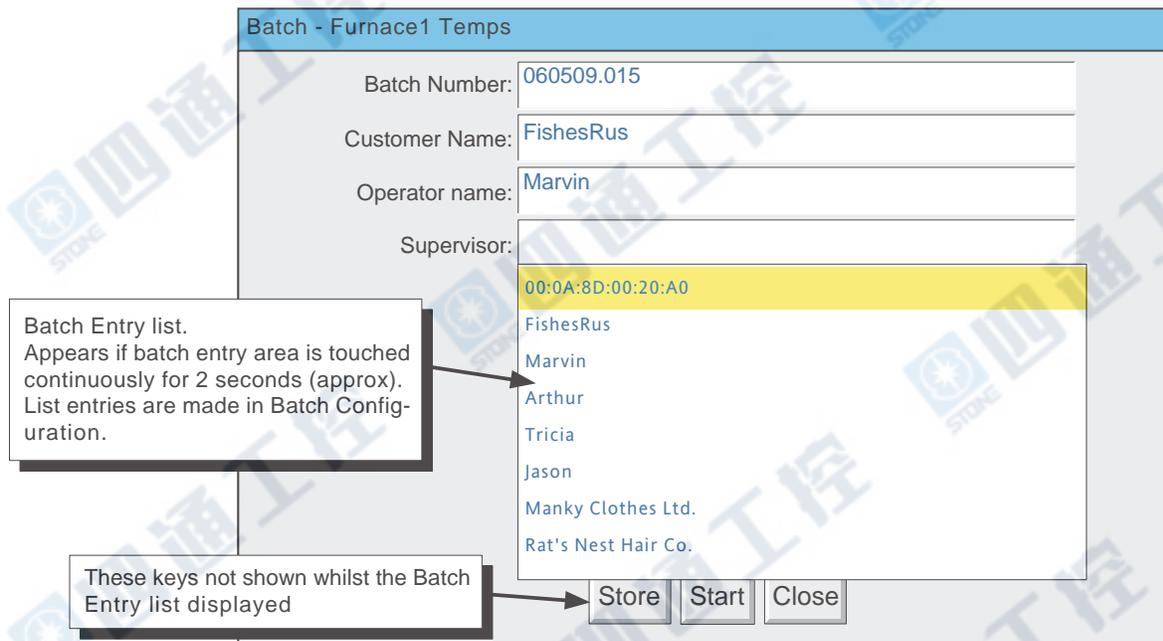

Figure 4.3.10b Batch values entry page
3. Press 'New'. A new display page appears (figure 4.3.10b), showing all the headings entered in Field 1 to Field 6 during configuration. If the Batch Fields entry is less than 6, then only the selected number appear (in our example, 4).